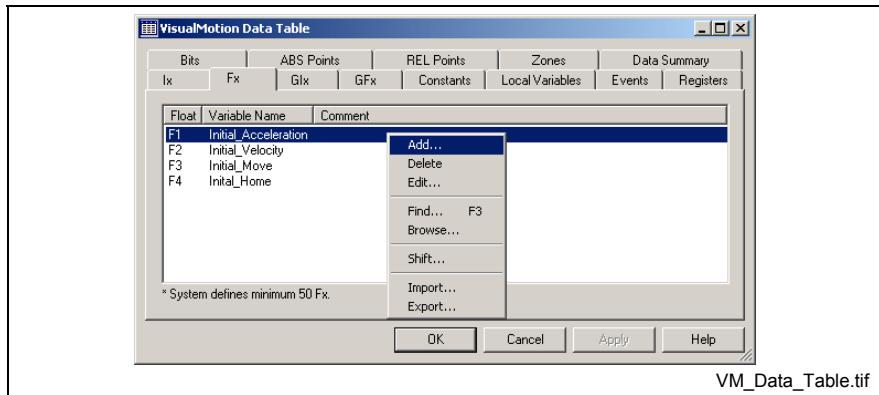

Fig. 4-78: Sample Program Floats in VM Data Table
- Constant** A fourth designator for a float and integer is a constant. Constant labels are accessed and modified in the VM Data table only, see Fig. 4-78.
A convenient method for programming with VisualMotion is to declare all variables in the VM Data Table before creating the icon program. Select the VM Data Table button (VM) from the VisualMotion tool bar or select **Edit** ⇒ **VM Data...** to open the *VM Data Table* window, see Fig. 4-78. After selecting the appropriate tab in the *VM Data Table* window, right click in the field to add an item or right click on an item in the field to edit it. With the VM Data Table complete, variables can be accessed in the icon setup windows by selecting the browse button.